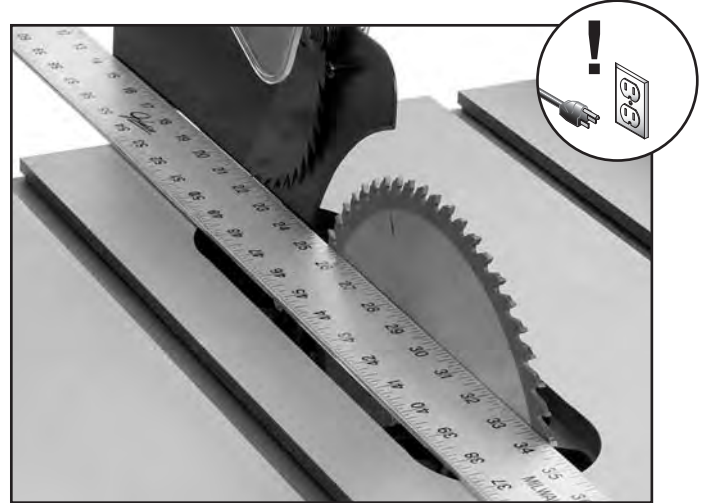

Figure 32. Checking alignment of blade guard.
7. Place a straightedge against the face of the saw blade and the blade guard (**Figure 32**).